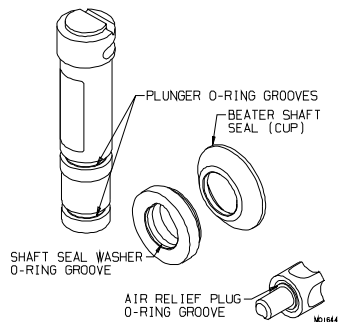

Figure 6-7 Clean shaft seal and plunger o-ring grooves
c. (See figure 6-7.) The shaft cup seal, plastic washer, plunger O-ring grooves, and air relief plug grooves.